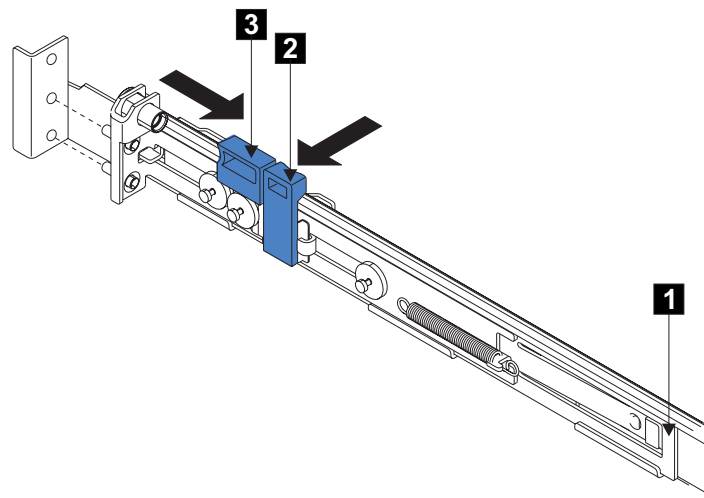

Figure 29. Opening the back latch-lock carrier assembly
7. Push the back rail bracket **1** (Figure 29) toward the front of the rail until it stops. The rail is now at its shortest adjustment.
14. Push the back rail bracket **1** (see Figure 29 on page 31) toward the rear of the rack and align the locating pins with the rack-mounting flange.
15. Push the latch lock **2** (see Figure 29 on page 31) away from the rail to release the carrier. The latch-lock carrier slides toward the rear of the rack, and the locating pins project through the holes that are in the rear flange and in the rear rail bracket.